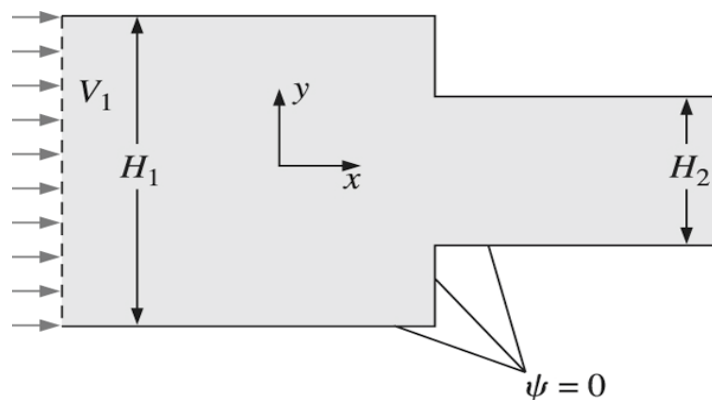

Figure Q1[b]
- [b]** Bob uses the computational fluid dynamics (CFD) code to model steady flow of an incompressible fluid through a two-dimensional sudden contraction as in Figure Q1(b). Channel height changes from $H_1 = 12\text{cm}$ to $H_2 = 4.6\text{cm}$. Uniform velocity $\vec{V}_1 = 18.5\vec{i}\text{ m/s}$ is to be specified on the left boundary of the computational domain. The CFD code uses numerical scheme in which the stream function must be specified along all boundaries of the computational domain. As shown in Figure Q1(b), ψ is zero along the entire bottom wall of the channel.